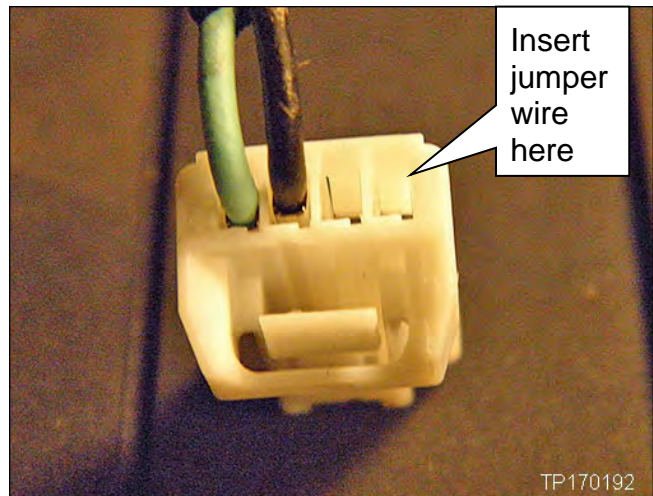

Figure 8
NOTE: In the next step, you will insert the other end of the jumper wire in the slot shown in Figure 8.
15. Insert the other end of the jumper wire as shown (see Figures 8 and 9).